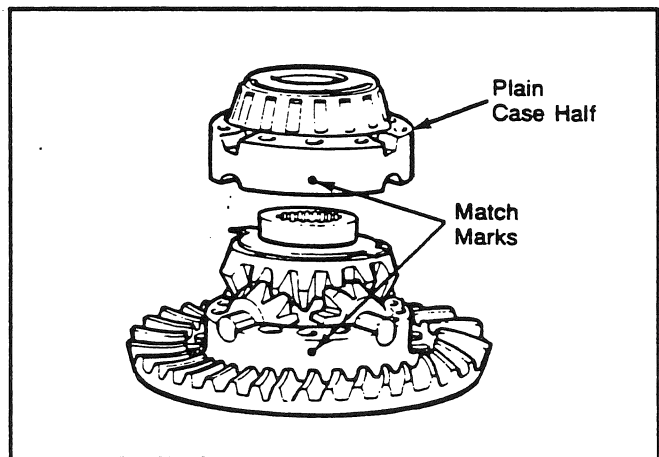

Fig. 57
8. Install the plain half of the differential case over the flange case half and gears. Align the match marks of the two case halves (see Fig. 57).